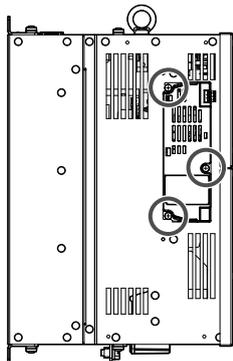

Figure 19 Location of Screws
2. Use a Phillips screwdriver (M4) and the screws included in the package to fasten the 24 V Power Supply Option to the drive in the three locations shown in Figure 19.